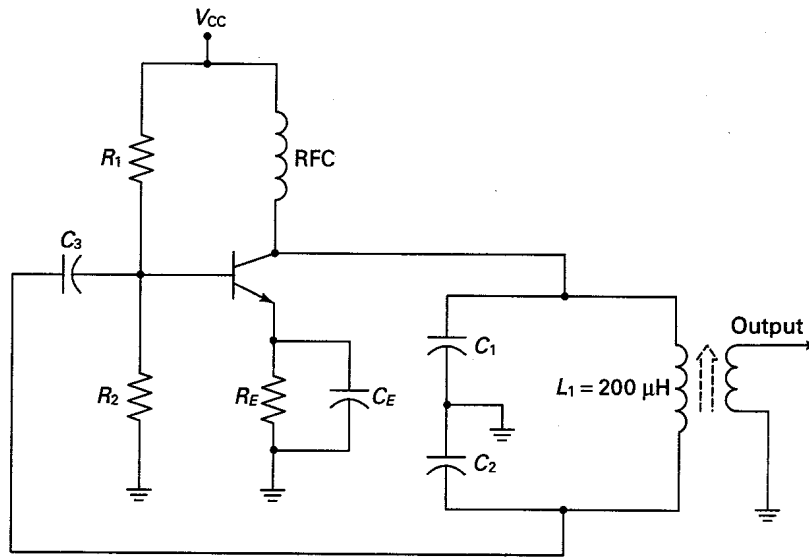

Fig. 2-22
**2.7** Refer to Fig. 2-22. If  $C_1 = 14.54 \text{ pF}$  and  $C_2 = 435.27 \text{ pF}$ , calculate the following: (a)  $f_{\text{osc}}$ ; (b) the feedback fraction  $B$ ; (c)  $X_{C_1}$ ,  $X_{C_2}$ , and  $X_{L_1}$ ; (d)  $X_T$  of the  $L_1 C_2$  branch.
**2.8** Refer to Fig. 2-22. Assume that it is desired to obtain an oscillating frequency of 1 MHz and a feedback fraction  $B$  of  $\frac{1}{25}$ . Calculate the following: (a)  $C_{eq}$ ; (b)  $C_1$  and  $C_2$ ; (c)  $X_{C_1}$ ,  $X_{C_2}$ , and  $X_{L_1}$ ; (d)  $X_T$  of the  $L_1C_2$  branch.